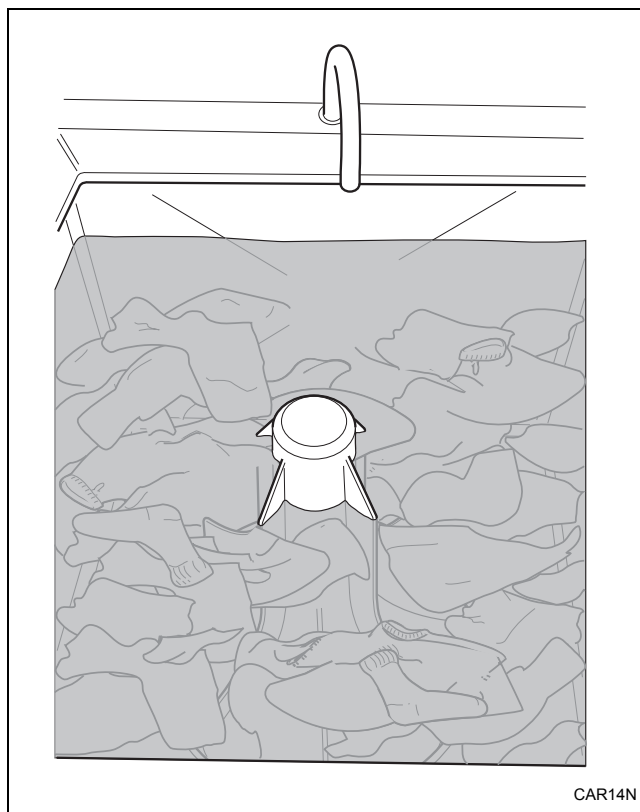

Figure 12
6. Place washables in compartment. Distribute evenly around agitator. Refer to *Figure 12*.